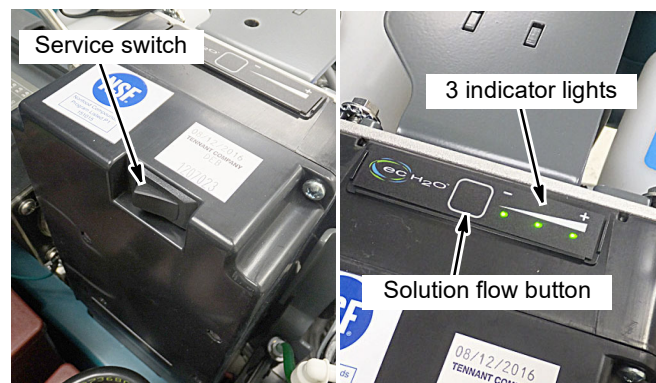

FIG. 133
- b. Press and hold the service switch, located on the ec-H2O module, for 10 seconds. After releasing service switch, the three solution flow indicator lights will begin to (ripple) move back and forth (Figure 133).
- c. Within 5 seconds after releasing the service switch, while the three indicator lights are moving back and forth, quickly press and release the solution flow button located on ec-H2O module (Figure 133). The three indicator lights will then blink three times to indicate timer has been reset. Repeat process if the three indicator lights do not blink three times.